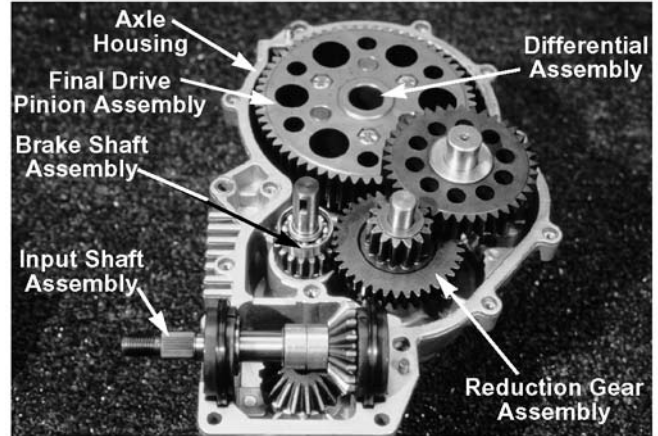

Figure 5-13.
- F. Input shaft assembly. See Figure 5-13.